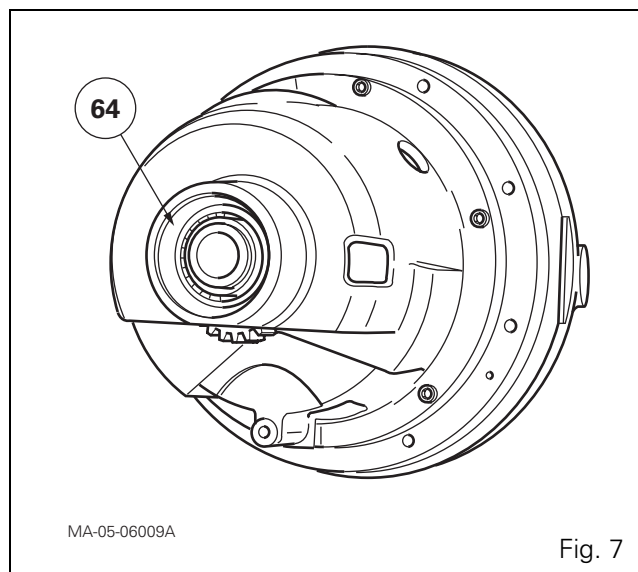

Fig. 7
16. Screw two diametrically opposed guide studs "G" into the gearbox (Fig. 7).
18. On the input unit, check that the cup (64) (Fig. 7) is fitted.